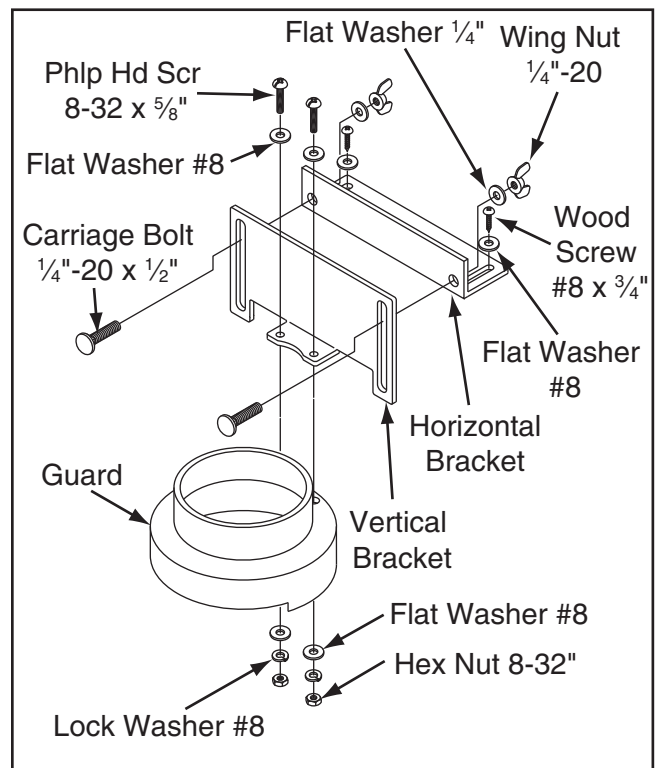

Figure 28. Assembling router guard.
18. Assemble the router guard with the components shown in **Figure 28**.